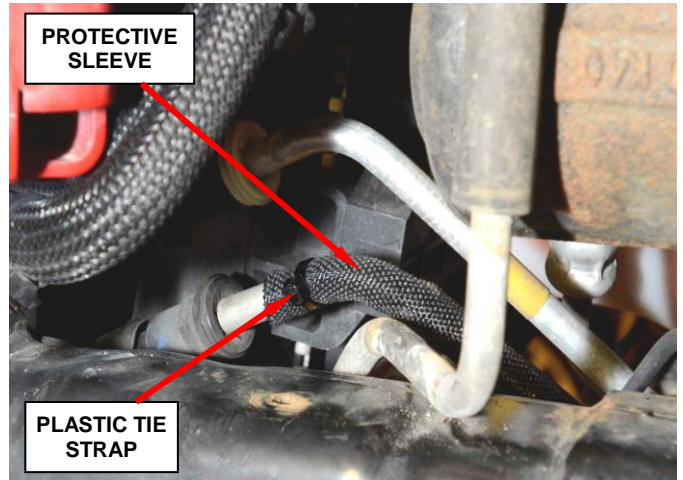

Figure 5 – Tie Strap at Cooler End of Tube
1. Carefully slide the protective sleeve over the transmission oil cooler tube (Figure 5).
2. Install a plastic tie strap at each end of the protective sleeve (Figure 5 and 6).